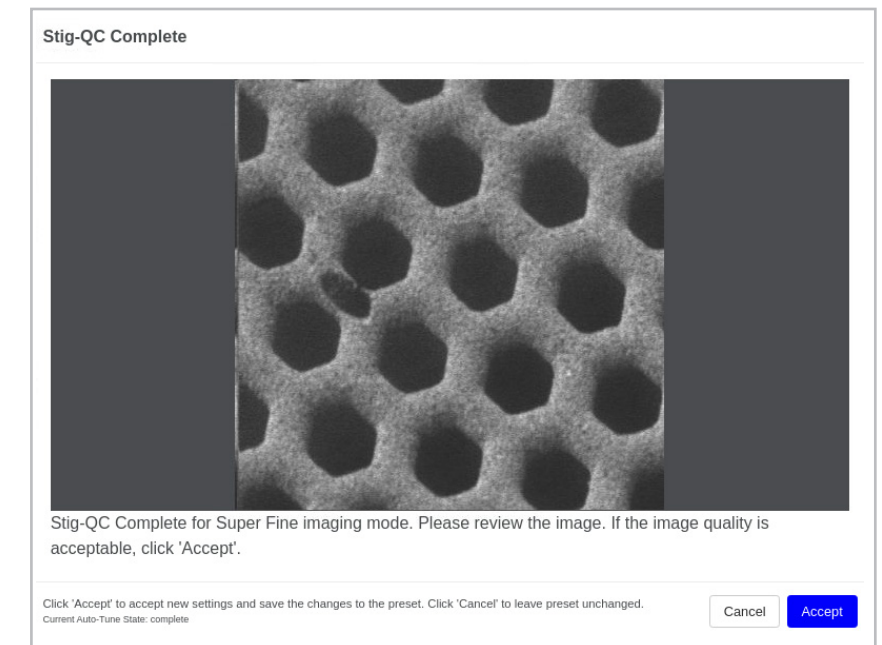

FIGURE 3.4 Stig QC results for verification.
- a. If the stigmation is acceptable click **Accept** (Figure 3.4) to save the optimized stigmation parameters to the Imaging Mode.